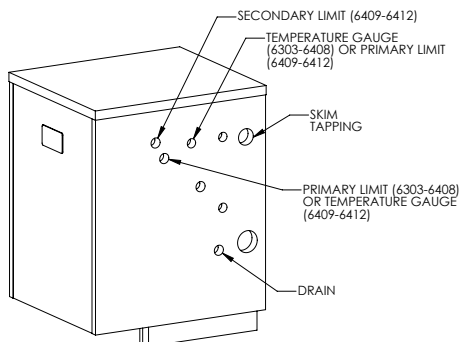

Figure 6.7: Water Boiler Tapping Locations
Install the 3/4" drain valve provided into the drain tapping on the right hand side of the boiler. Refer to Figure 6.7 for tapping location.
Install the pressure/temperature gauge (theraltimeter) supplied with the boiler into the 1/2" tapping located on the right side of the boiler. Refer to Figure 6.7 for tapping location.
- a. Install the operating limit control provided in the 3/4" tapping located on the right side of the boiler. Refer to Figure 6.7 for tapping location.
- b. (64-09 through 64-12) Install a high limit control in the 3/4" tapping located above the operating limit control. Refer to Figure 6.7 for location.